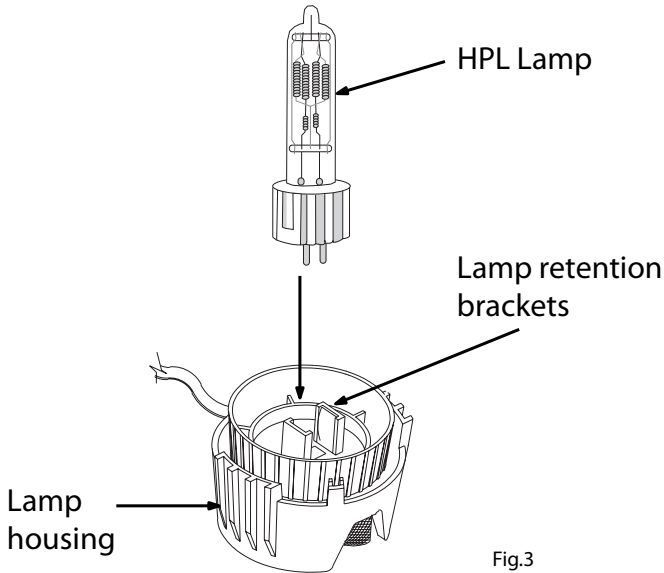

Fig.3
3. Remove the lamp housing, substitute the lamp (fig.3).